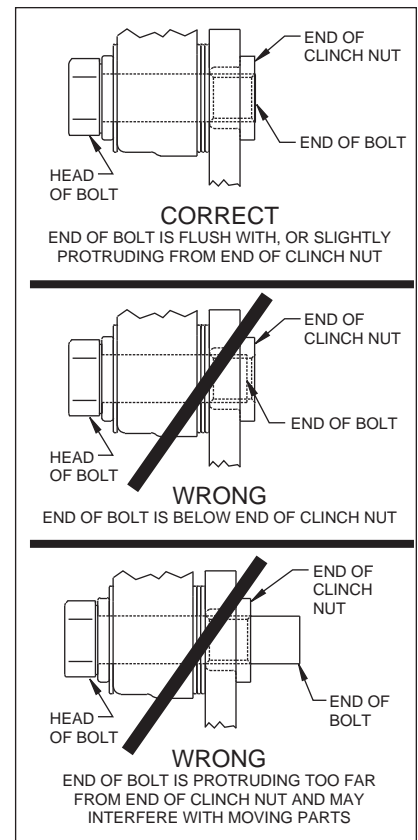

Figure 3.
- **NOTE:** Please reference the caution statement at the beginning of the assembly instructions. This kit contains distinct right and left hand calipers that must be mounted in a specific direction, as described below. Mount the caliper (10) onto the caliper mounting bracket (1) using two bolts (11) and two washers (12). Ensure that the caliper is mounted so that the largest pistons are at the rotor exit end of the caliper, in relation to the direction of rotor rotation. View the rotor (6) through the top of the caliper (10). The rotor (6) should be aligned in the center of the caliper (10). If not, loosen the two bolts (11) and adjust the caliper (10) by using 0.032 inch thick shim washers (13). The shim washers (13) should be placed between the caliper (10) and the caliper mounting bracket (1). Finger tighten and recheck alignment. Add as many shim washers (13) as necessary to achieve the correct alignment. **NOTE:** The end of the bolt must be flush with or slightly protruding from the head of the clinch nut. See Figure 3. Place spare shims (13) between washer and caliper mounting ear to achieve the proper mounting fastener configuration. Always use the same amount of shims on both the top and bottom caliper mounting bolts (11). Once the caliper alignment and clinch nut engagement are correct, remove the mounting bolts and caliper.